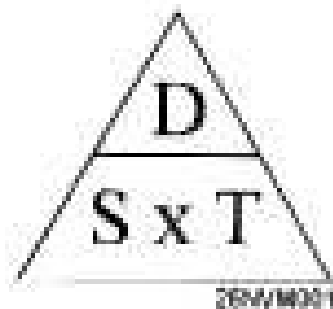

Figure 8-1.—T, S, and D triangle.
The following is an aid to help you remember these formulas. Simply place the letters in a triangle, as shown in figure 8-1. For distance (D), place your finger over the D and you have S x T. For speed (S), cover the S and you have D ÷ T. For time (T), cover the T and you have D ÷ S